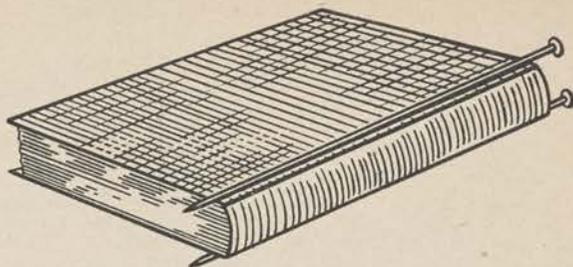

Figure 284.
*g.* Insert the back end paper in the same way and press the book under a heavy weight until the paste is dry. The spine will be neater if a pair of knitting needles or similar objects is placed as illustrated during the pressing (fig. 284). It is also advisable to put several sheets of scrap paper between the covers and the book during pressing to prevent the dampness of the paste from wrinkling the pages.